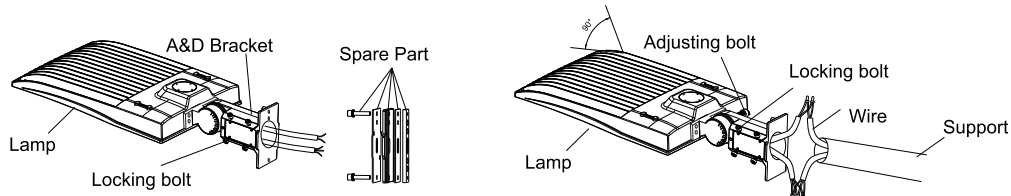

Figure 19 Figure 20
Step 1: Remove the spare parts from A&D bracket. (Figure 19).